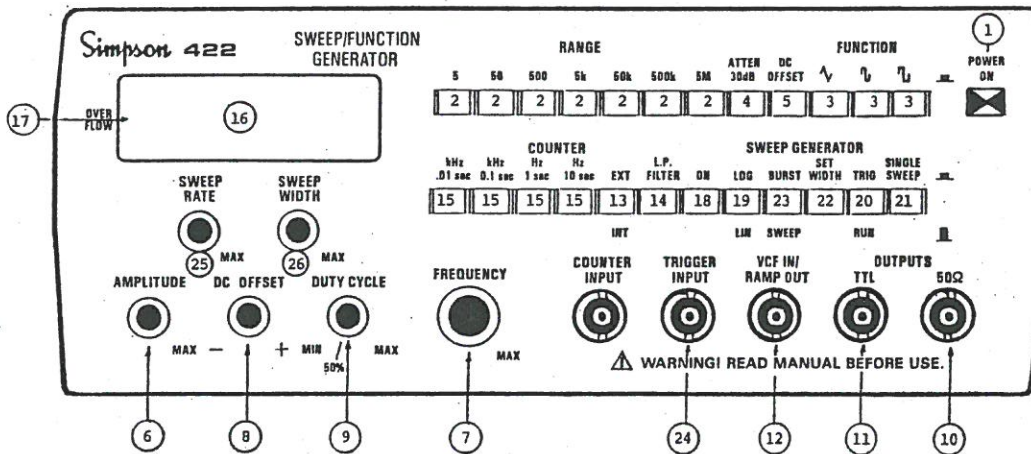

Figure 3-1. Front Panel Description
3.1.1 All controls, connectors, indicators and other operational items are described in Table 3-1, and shown in Figure 3-1. Become thoroughly familiar with the name and purpose of each item before operating the Instrument.
3.2.1 Description of front panel controls, connectors and indicators are as listed in Table 3-1 and shown in Figure 3-1.